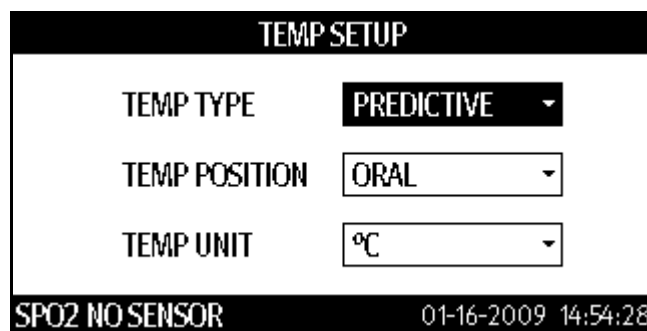

FIGURE 6-14 Example **TEMP SETUP** dialog
4. Once **TEMP SETUP** is highlighted, press  to display the **TEMP SETUP** dialog as shown in FIGURE 6-14.